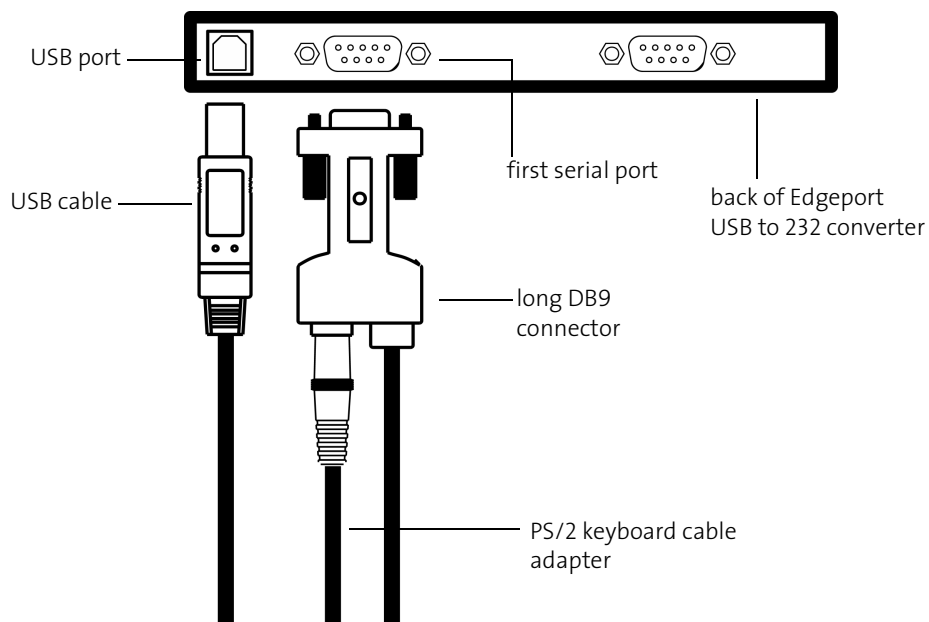

Figure 1-14 USB cable and long DB9 connector to back of Edgeport
4. On the back of the Edgeport USB to 232 converter, connect the long DB9 connector to the **first** serial port and fasten the screws. Then connect the USB cable to the USB port, located next to the first serial port (Figure 1-14).